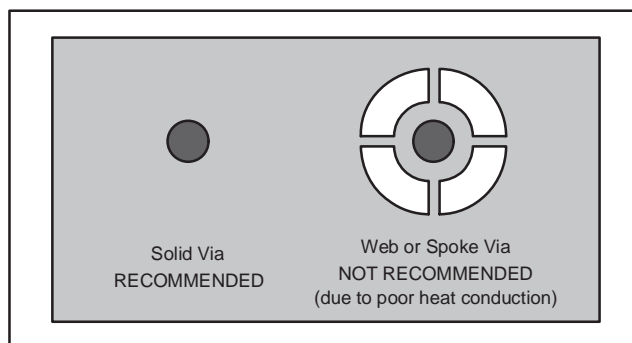

Figure 11. Via Connection
6. When laying out these holes, do not use the typical web or spoke via connection methodology, as shown in Figure 11. Web connections have a high thermal resistance connection that is useful for slowing the heat transfer during soldering operations. This makes soldering the vias that have ground plane connections easier. However, in this application, low thermal resistance is desired for the most efficient heat transfer. Therefore, the holes under the PowerPAD package should make their connection to the internal ground plane with a complete connection around the entire circumference of the plated-through hole.